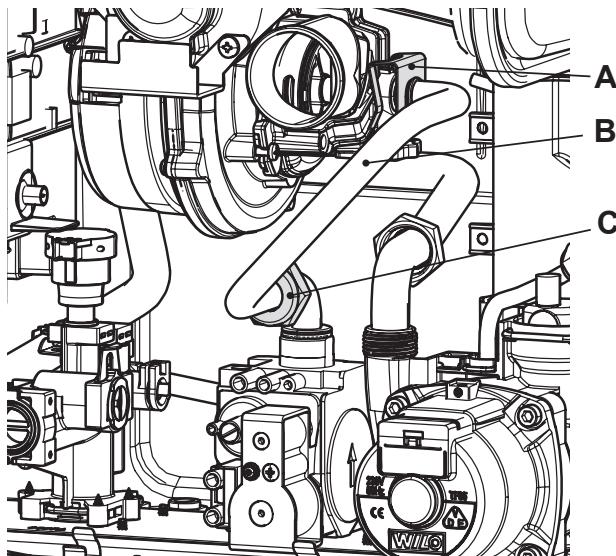

Fig. 8.1
- Unscrew the connector C, remove the fixing fork A and remove the pipe B (Fig. 8.1).